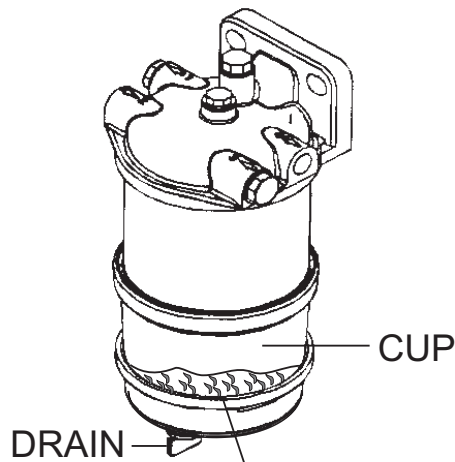

Figure 49. Fuel Water Separator
1. Inspect the fuel filter water separator daily. If the fuel filter/water separator (Figure 49) has collected a significant amount of water and sediment at the bottom of the cup, it should be drained off.